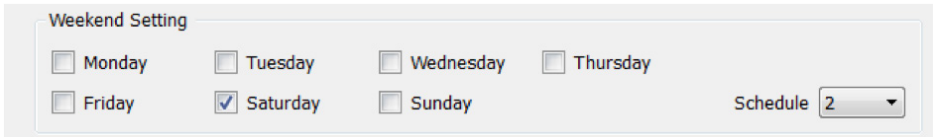

Figure 4-20 Weekend Setting in TOU configurations page
- e. Weekend Settings: In this section you can set up the schedule number according to weekends to assign a weekend schedule. Refer to Figure 4-20.